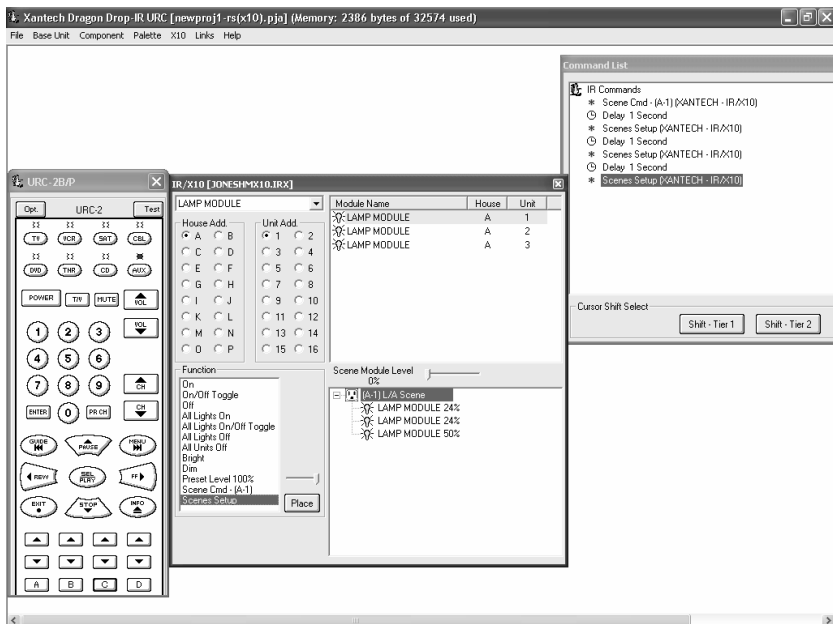

Figure 6 – Creating a Scene Command Macro
5. To add a Scene Setup to this Macro (Method 2 from above), select Scene Setup in the Function List Box and then click Place. You should now see the Scene Setup commands added to the Command List window. (Refer to **Figure 6**) Now this Macro can be used as the Scene Command to set lighting to a predetermined level and be used to reset the X10 modules after a Power Failure.